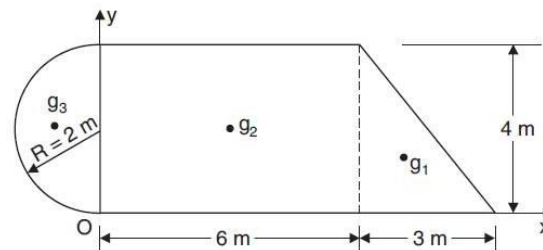

Fig. 14
4. Determine the centroid of the area shown in Fig. 14 with respect to the axis shown [10 M]